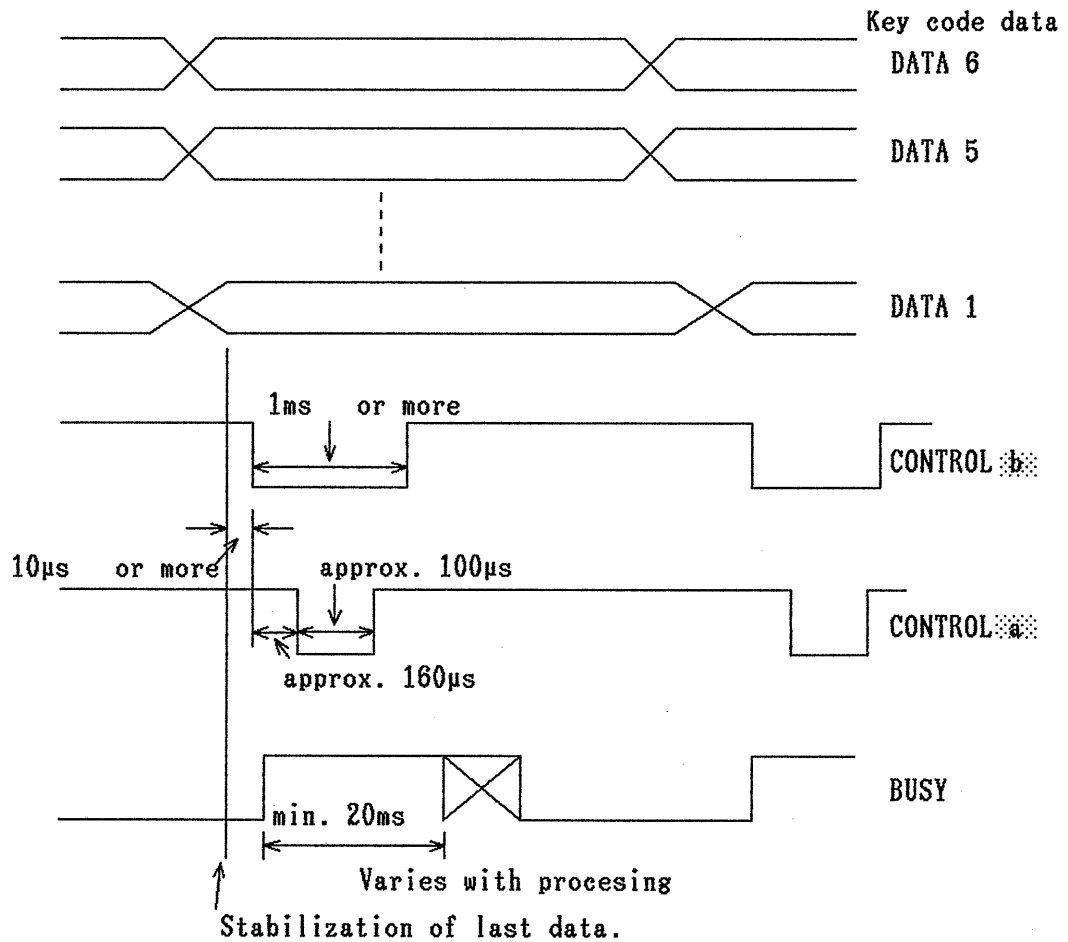

Fig. 5-2
Set the key code data DATA 1 - 6 while the BUSY signal is off ("0"), give 10 µs or more time after the last data of DATA 1 - 6 is stabilized, and set CONTROL **b** to "0" for 1 ms or longer as shown in Figure 5-2.
- (1) Set the DATA ENTRY FREQ code "010010" according to the panel key code table (Table 5-1).
- (2) Set CONTROL  to "0" for 1 ms or longer as shown in the input data timing chart (Figure 5-2).